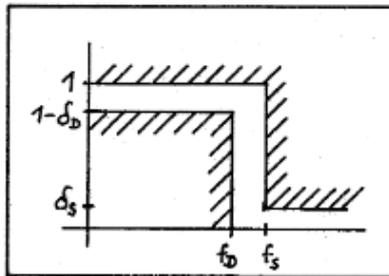
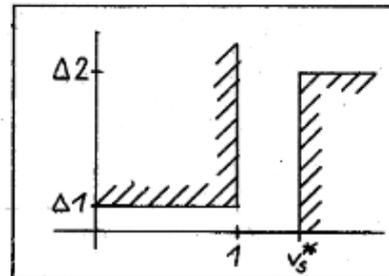

Bild 2:
Bild 3:
With the first branch "FIR?" the system type is specified. By pressing R/S, "IIR" appears in the display, i.e. recursive filter sizes are determined. After entering the tolerance tube parameters 80 and 88 (see Figure 2), the following calculation steps are carried out:
3. A transformation of the tolerance hue provides an approximation scheme according to Fig. 3, which allows a more pleasant mathematical treatment than Fig. 2. formula (1) applies to the new quantities Delta 1 and Delta 2.
Modifikation von Bild 2